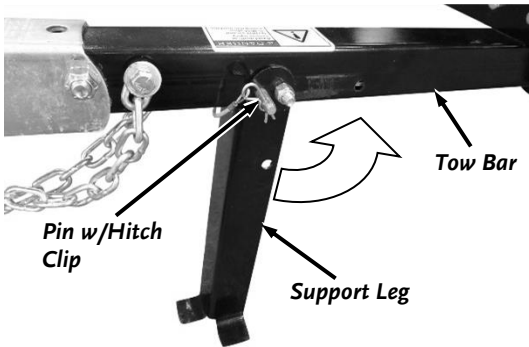

Figure 13
2. Pull the Hitch Clip from the Clevis Pin and pull the Pin from the Support Leg and Tow Bar (**Figure 13**).